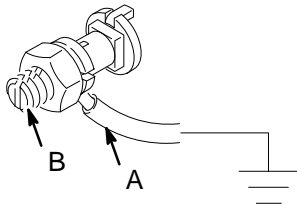

Fig. 1
*Pump:* Connect one end of a 12 ga (1.5 mm2) minimum ground wire (A) to the ground connector (B) on the pump. See Fig. 1. Connect the other end of the wire to a true earth ground.
*Agitator and drum cover:* Connect one end of ground wire (A) to ground connector (B) on rim of drum cover. See Fig. 1. Connect other end of ground wire to true earth ground.